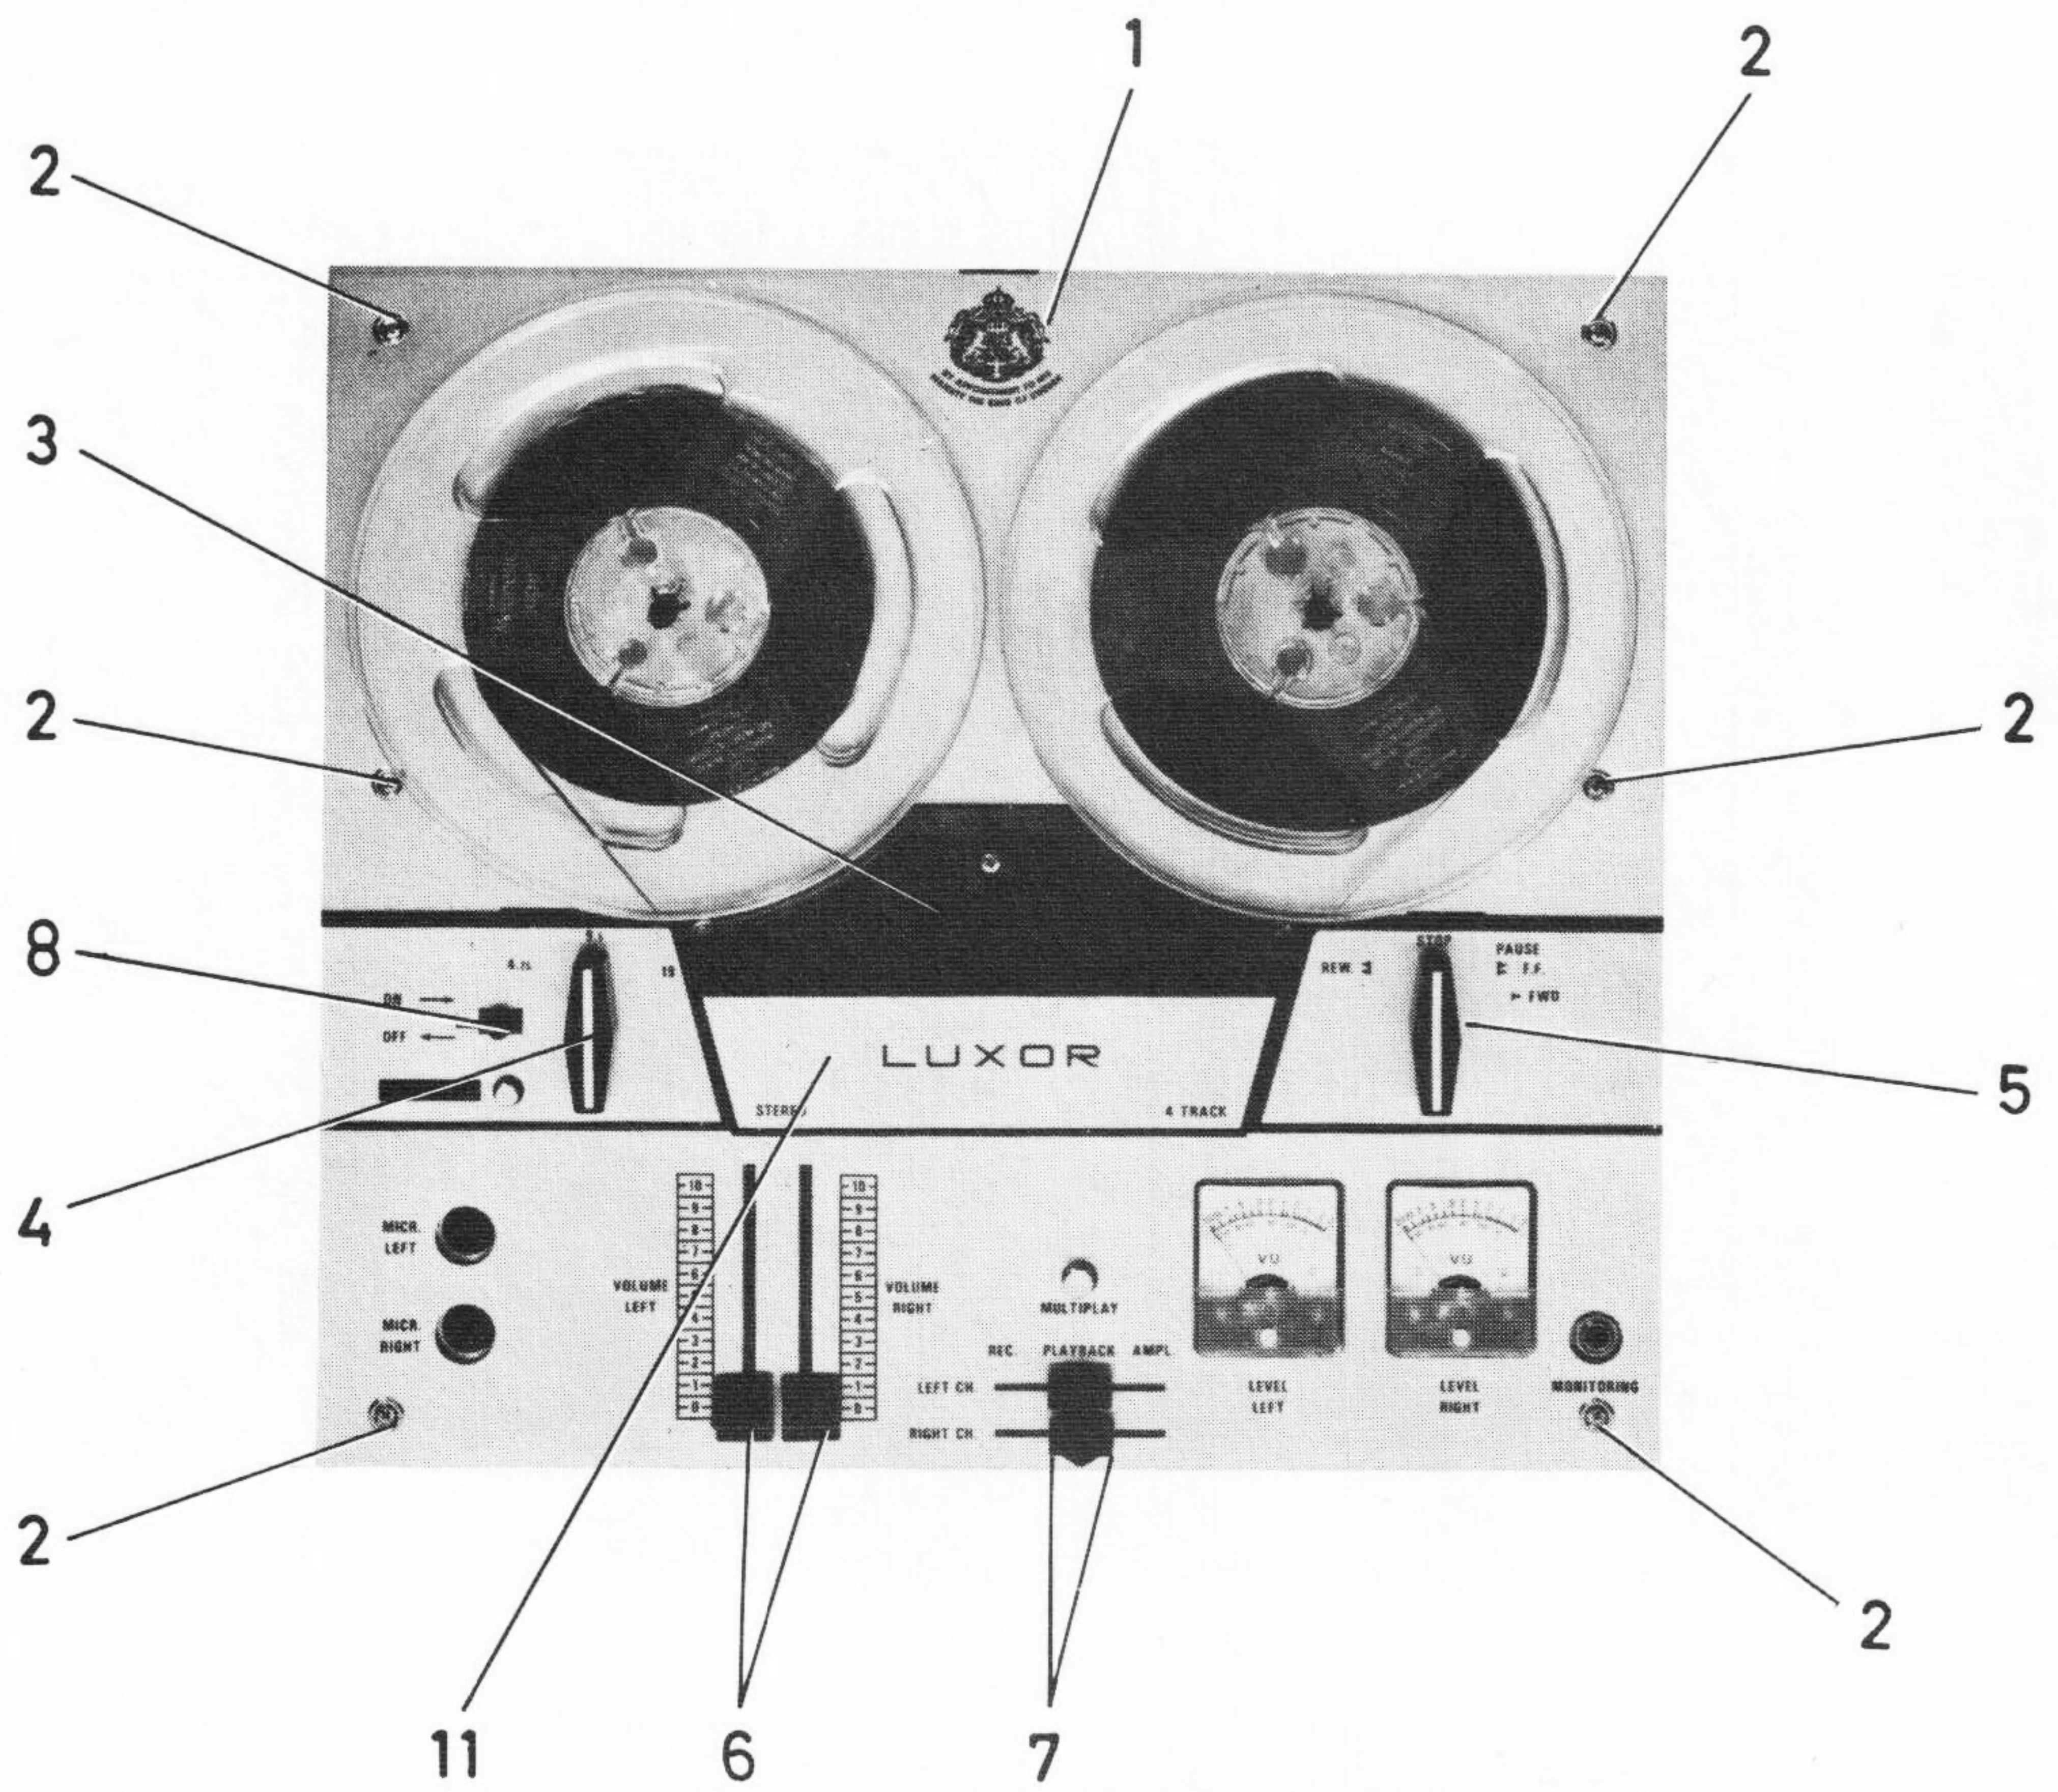
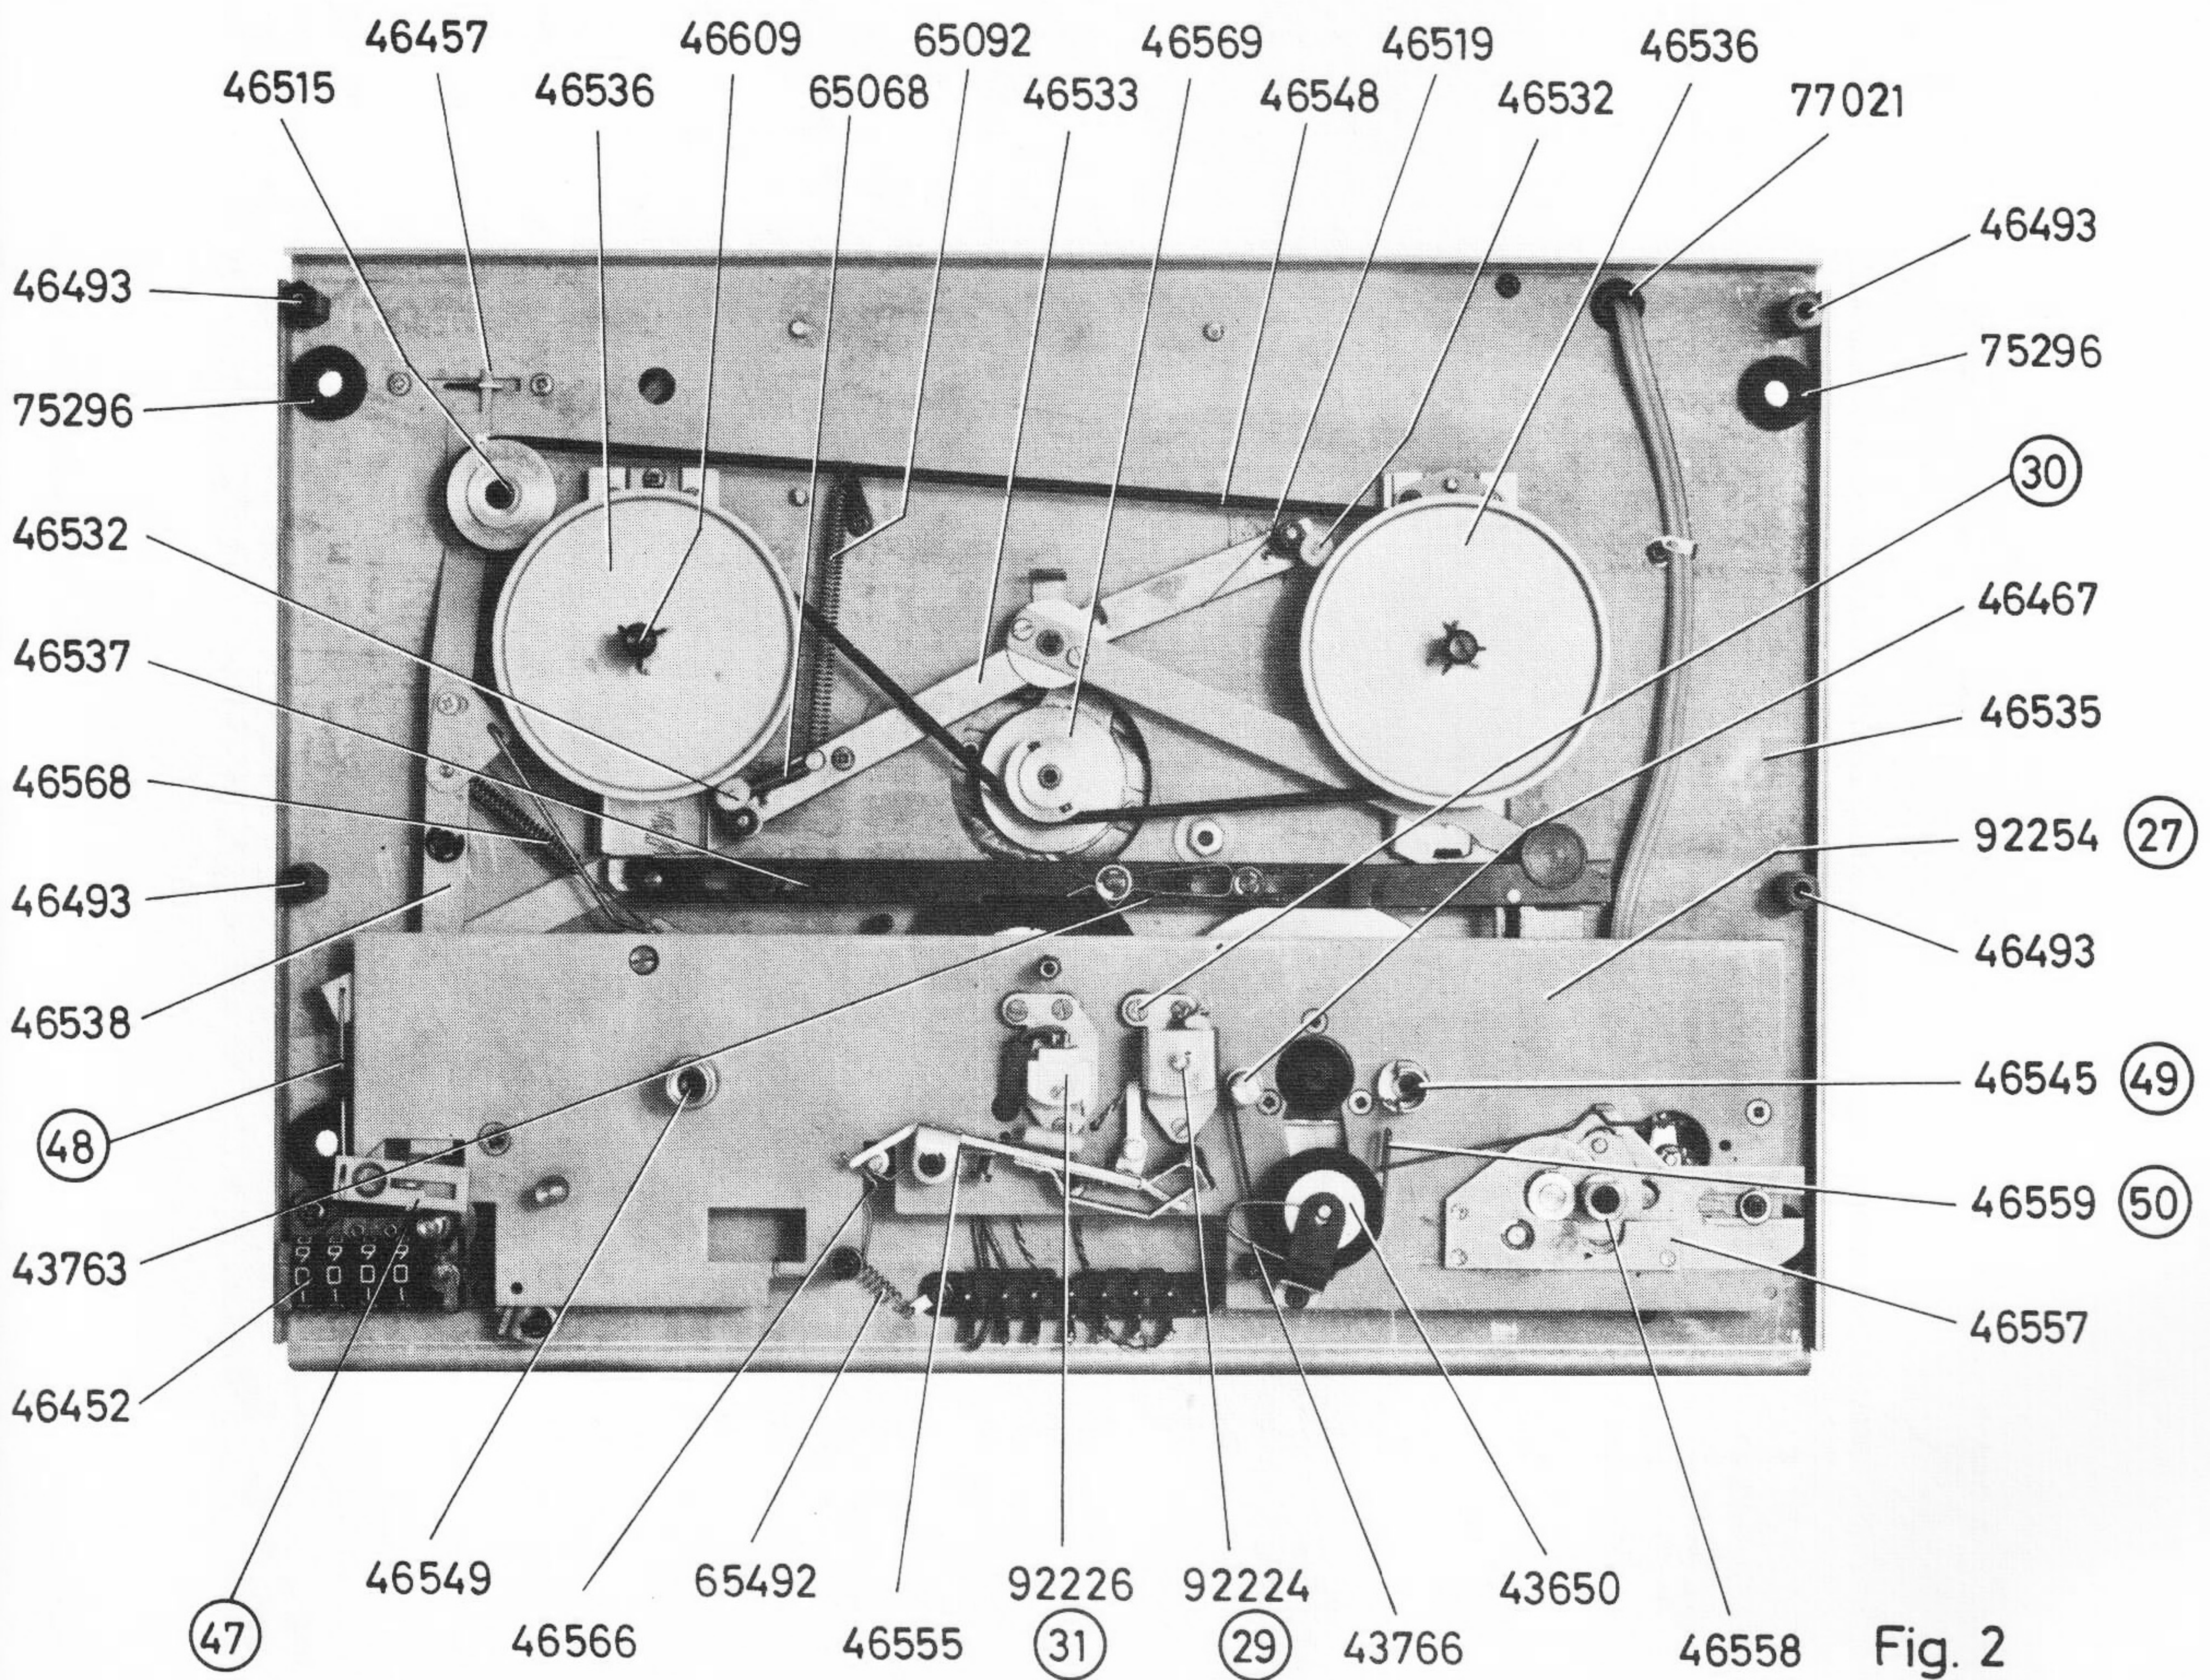
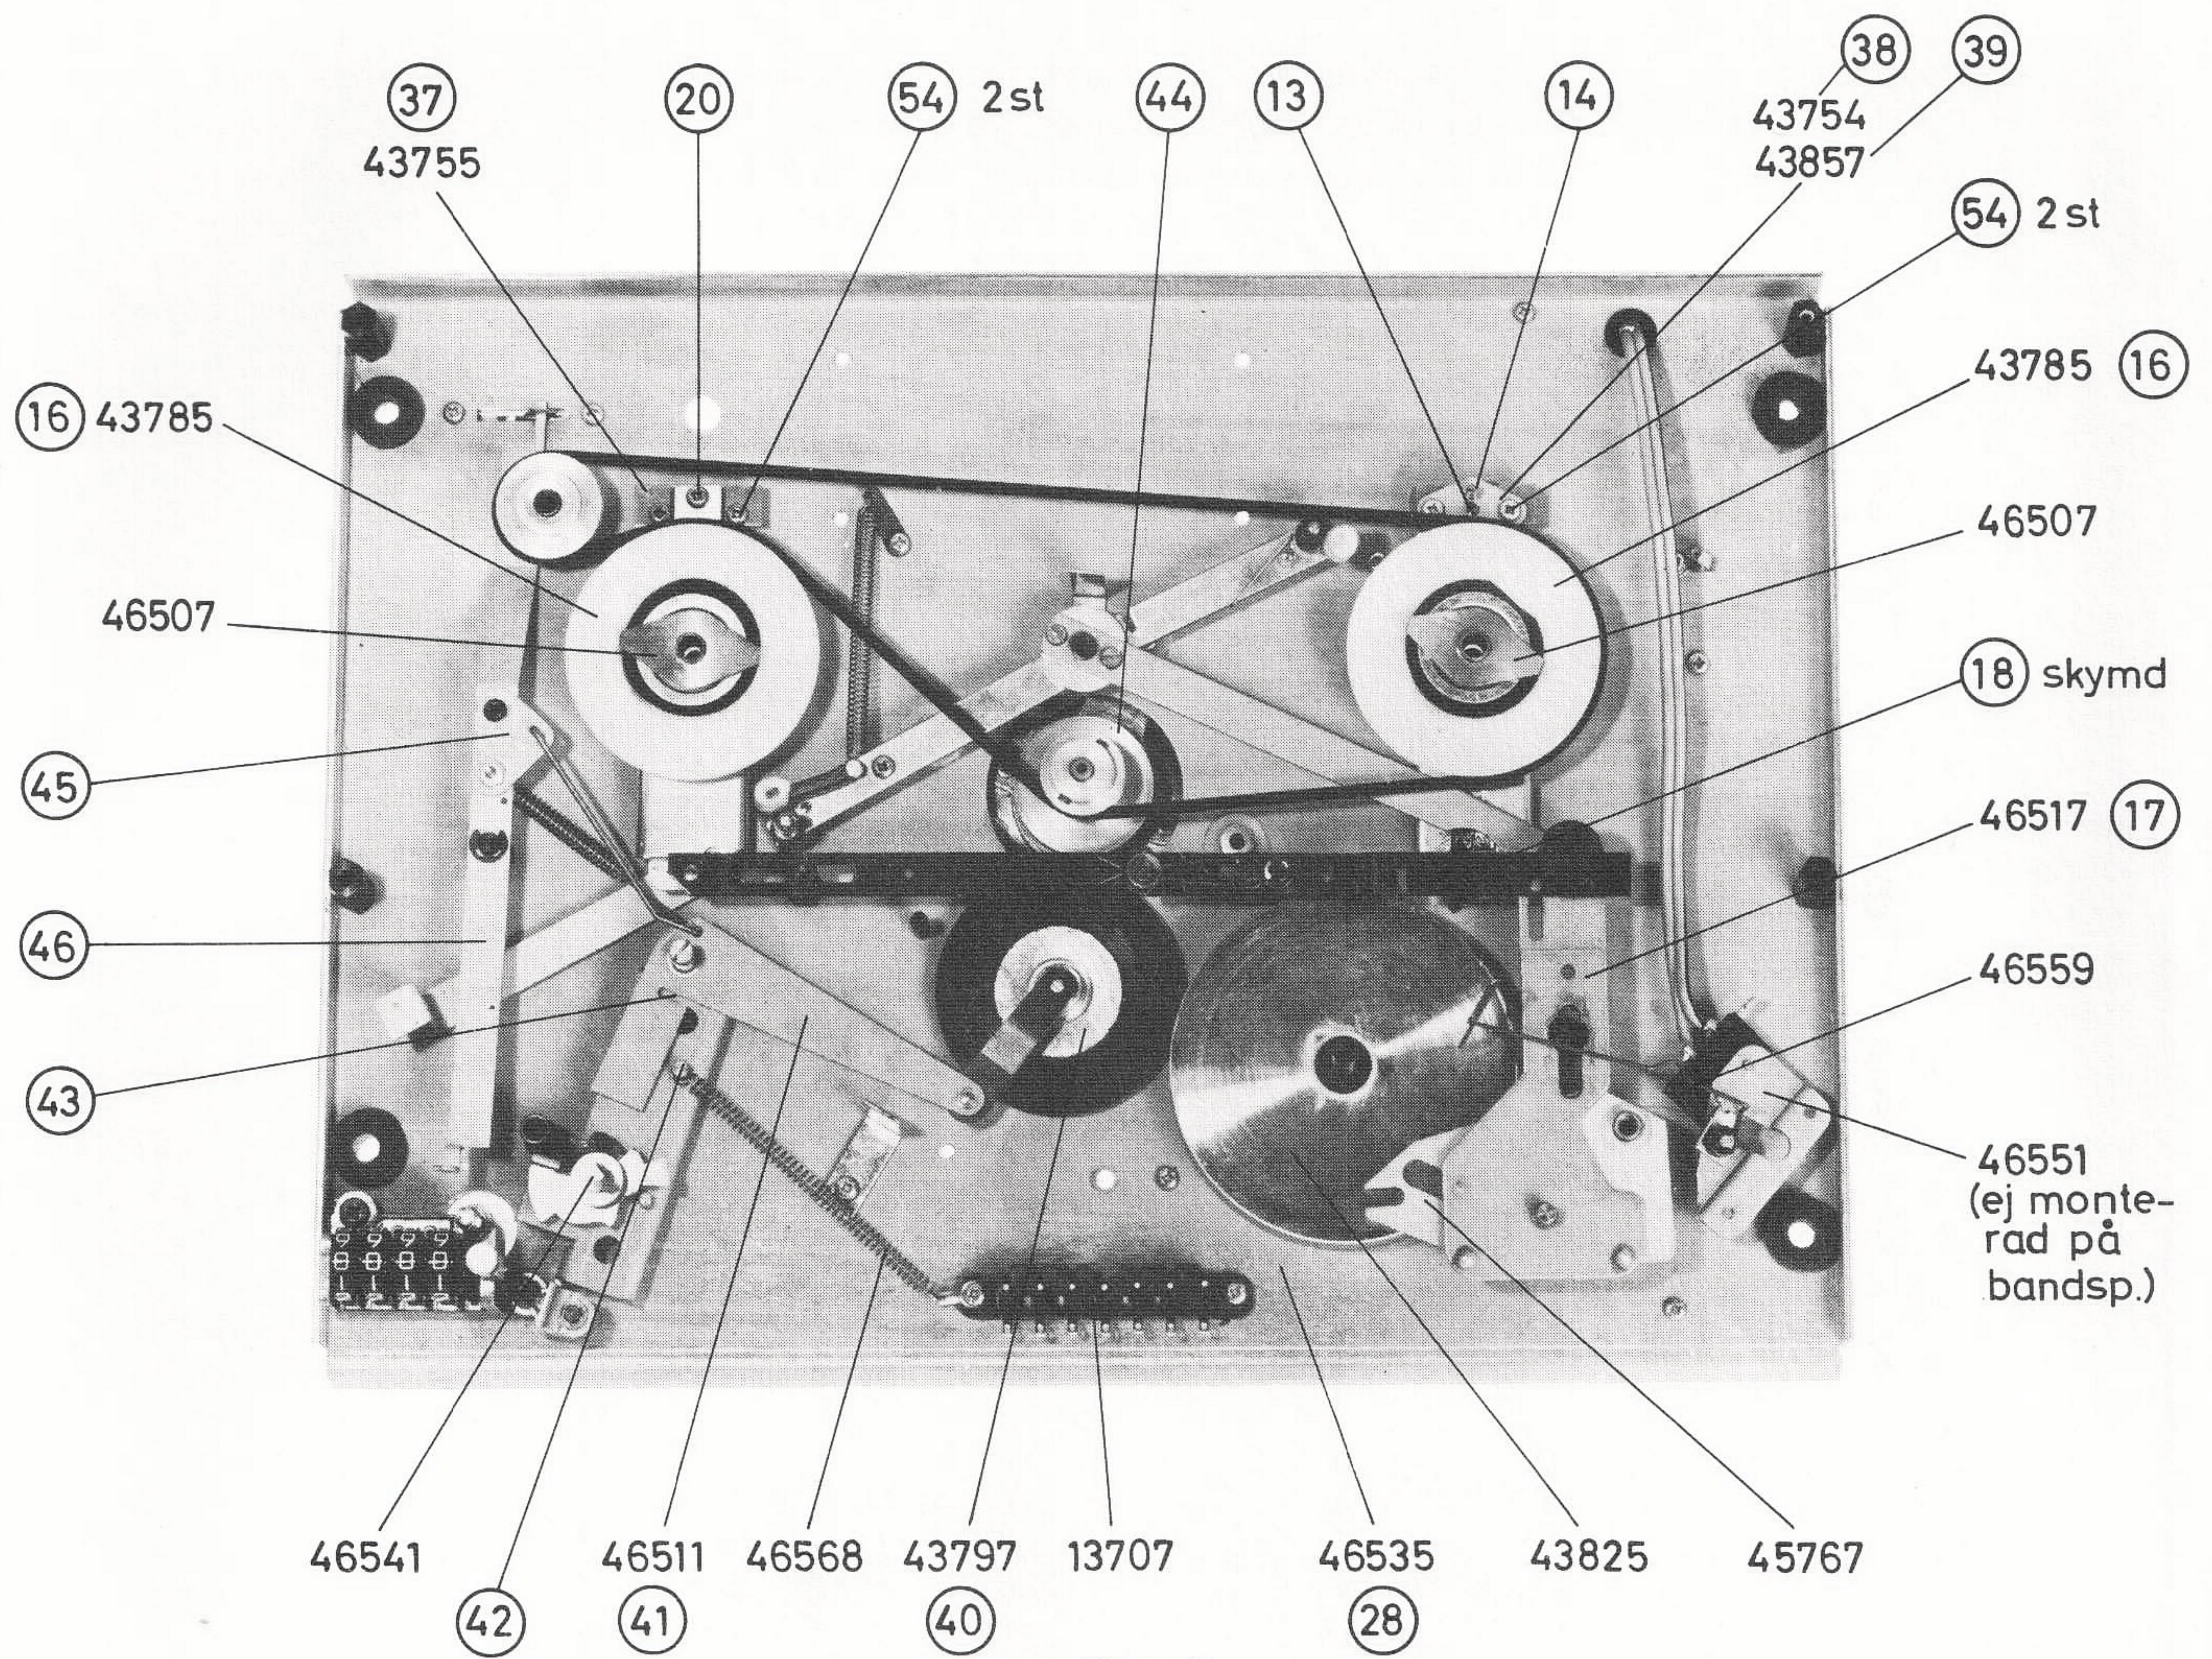
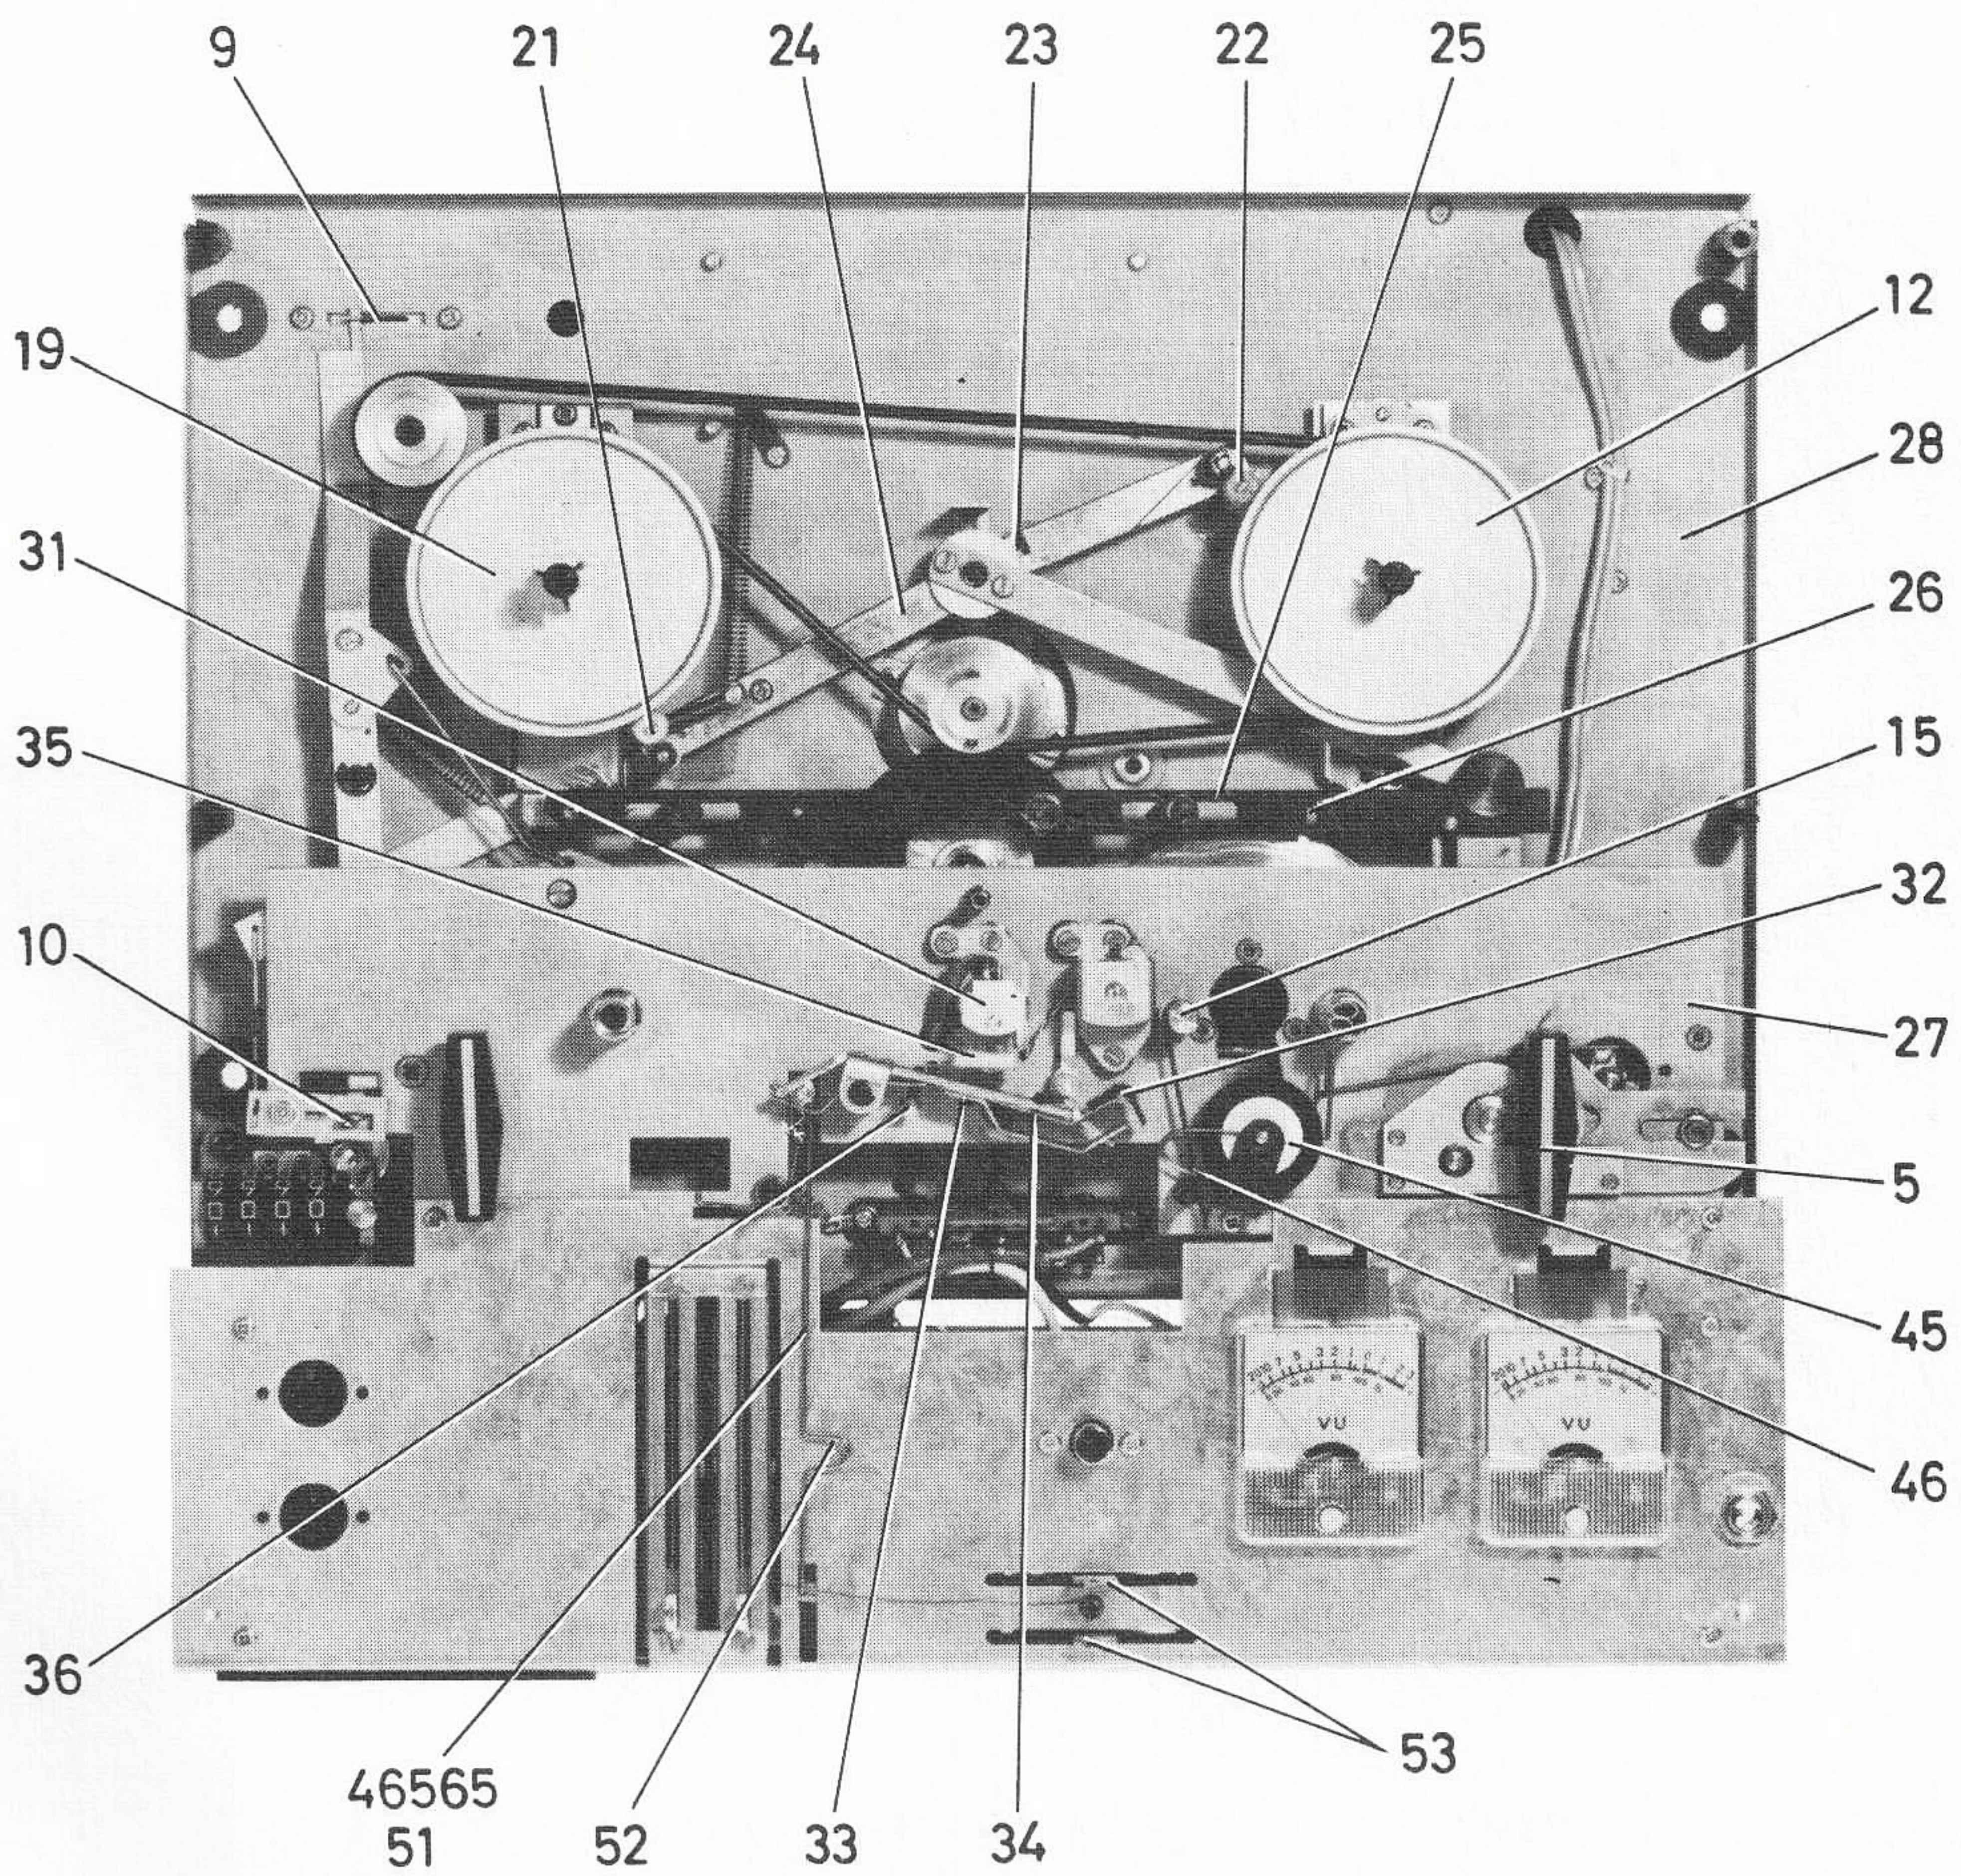

Fig. 1
Fig. 2
Fig. 3
Fig. 4
VILL MAN KOMMA ÅT DELAR UNDER TÄCKPLATTAN (1) FIG 1 MÅSTE DENNA AVTAGAS, VILKET TILLGÅR PÅ FÖLJANDE SÄTT:
DÄREMOT SKALL MANÖVERKNAPPEN (8) FÖR STRÖMSTÄLLAREN (9) FIG 4 EJ TAGAS BORT ENÄR DEN ÄR FÄSTAD I TÄCKPLATTAN. VID ÅTERMONTERING MÅSTE MAN TILLSE ATT DENNA KNAPP FÅR SAMMA LÄGE, SOM STRÖMSTÄLLARENS SPAK (10) FIG 4 SÅ ATT DENNA LÄTT GLIDER IN I MANÖVERKNAPPENS ÖPPNING UNDERTILL.
FRÄMRE MASKEN (11) FIG 1 KAN BORTTAGAS GENOM ATT DEN DRAGES UT.
ANVÄND EN TOMSPOLE MED EN INRE DIAMETER AV 57 MM, PÅ VILKEN ÄR UPP-LINDAD EN BIT SKALLINA. DENNA SPOLE PLACERAS PÅ BANDSPELARENS HÖGRA SPOLHJUL (12) FIG 4, VAREFTER LINANS FRIA ÄNDE FÄSTES I EN FJÄDERVÅG. (SPÄRRA DET AUTOM. STOPPET MED EN BIT PAPPER ELLER DYL.) VRID MANÖVERVREDET (5) (UTAN ATT TRYCKA IN DET) TILL LÄGE NORMALT FRAM ("FORW") OCH JUSTERA MED JUSTERSKRUVEN (13) FIG 3 TILLS FJÄDERVÅGEN VISAR 60 ± 5 GRAM. VRID SEDAN VREDET (5) FIG 4 TILL LÄGE STOPP ("STOP"), TRYCK IN OCH VRID DET TILL LÄGE SNABBT FRAM ("FF"). JUSTERA MED JUSTERSKRUVEN (14) TILLS VÅGEN VISAR $200 + 20$ GRAM. I BÅDA FALLEN SKALL MÄTNINGAR SKE MED APPARATEN STÅENDE OCH LINAN I LODRÄTT LÄGE.
KONTROLLERA ATT ETT AVSTÅND AV 0,5 - 0,7 MM FINNES MELLAN SPOLHJULETS (12) FIG 4 FRIKTIONSFILT OCH REMSKIVANS (16) FIG 3 ÖVRE FRIKTIONSYTA. (GÄLLER ÄVEN VÄNSTER SIDA.) OM SÅ ERFORDRAS GÖRS FÖLJANDE JUSTERINGAR:
PÅ MANÖVERARM (17) FIG 3 FINNS EN JUSTERMUTTER (18). AVSTÅNDET ÖKAS GENOM ATT SKRUVA NED JUSTERMUTTERN. MANÖVERVREDET (5) SKALL STÅ I STOPPLÄGE ("STOP"), DÅ DENNA JUSTERING GÖRES.
FÖR DETTA ANVÄNDES SAMMA MÄTANORDNING, SOM UNDER PKT 1. SPOLEN MED LINAN PLACERAS PÅ APPARATENS VÄNSTRA SPOLHJUL (19) FIG 4, VAREFTER DEN FRIA ÄNDAN FÄSTES I EN FJÄDERVÅG. TRYCK IN VREDET (5) OCH VRID DET TILL LÄGE "REW". JUSTERA MED JUSTERSKRUVARNA (20) FIG 3 TILLS FJÄDERVÅGEN VISAR $200 + 20$ GRAM.
STOPPBROMSARNA JUSTERAS SÅ ATT DÅ MANÖVERVREDET (5) FIG 4 STÄLLES I LÄGE SPELNING ("FORW") SKALL BROMSKLOTSARNA (21) OCH (22) LIGGA 0,3 - 0,5 MM FRÅN YTTERKANTEN PÅ SPOLHJULEN (12) OCH (19). EN AVVIKELSE MELLAN HÖGER OCH VÄNSTER HJUL JUSTERAS MED BOCKNING I SPÅRET (23) PÅ BROMSARMEN (24). STÄLL DÄREFTER MANÖVERVREDET I LÄGE SNABBT FRAM ("FF") OCH JUSTERA MANÖVERARMEN (25) I SPÅRET (26) SÅ ATT OVAN NÄMND AVSTÅND ERHÅLLES ÄVEN I DETTA LÄGE. KONTROLLERA ATT AVSTÅNDEN I LÄGE ÅTERSPOLN. ("REW") EJ ÄR MINDRE ÄN 0,3 MM.
DEN JUSTERBARA BANDSTYRNINGEN (15) FIG 4 INSTÄLLES I HÖJDLED SÅ ATT TONBANDET PASSERAR RAKT GENOM SAMTLIGA BANDSTYRNINGAR OCH FÖRBI RADÉRHUVUDET UTAN ATT PÅ NÅGOT STÄLLE VARE SIG TVINGAS UPP ELLER NED. RADÉRHUVUDETS LÖPYTA SKALL STÅ I RÄT VINKEL MED MANÖVERPLÅTEN (27). SE VIDARE UNDER PKT. 7.
LAGERBUSSNINGARNA FÖR HÖGER OCH VÄNSTER SPOLHJUL (12) OCH (19) KAN VID BEHOV RIKTAS I FÖRHÅLLANDE TILL MONTERINGSPLÅTEN (28) FIG 4 SÅ ATT BANDET SPOLAS I RÄTT HÖJD PÅ BANDSPOLARNA. BUSSNINGARNA RIKTAS MED EN KRAFTIG MEJSEL, SOM SÄTTES IN PÅ LÄMPLIGT STÄLLE I NÅGOT AV DE CIRKULÄRA SPÅREN KRING LAGERBUSSNINGARNA. GENOM EN BRYTNING I SIDLED PÅ SKRUVMEJSELN KAN NU DE FYRA EKRAR, SOM HÅLLER LAGERBUSSNINGEN, DEFORMERAS SÅ ATT EN ÄNDRING AV BANDSPOLNINGEN ERHÅLLES. I VILKET SPÅR MEJSELN SKALL SÄTTAS SAMT ÅT VILKET HÅLL DEN SKALL BRYTAS ÄR BEROENDE AV HUR BANDET LINDAR OCH FÅR BEDÖMAS FRÅN FALL TILL FALL. EFTER DENNA JUSTERING FÅR BANDET EJ SPOLAS NÄRMARE NÅGON AV BANDSPOLENS FLÄNSAR ÄN 0,3 MM.
TONHUVUDET (29) FIG 2 JUSTERAS I HÖJDLED SÅ ATT ÖVRE KANTEN AV DESS ÖVRE KÄRNPLÅT KOMMER 0,1 - 0,2 MM UNDER TONBANDETS ÖVERKANT. TONHUVUDETS FÄSTPLÅT SKALL VARA PARALLELL MED MANÖVERPLÅTEN (27). MAX. AVVIKELSE 0,2 MM MELLAN FÄSTPLÅTENS FRÄMRE OCH BAKRE DEL. SPALTVINKELN INJUSTERAS MED HJÄLP AV TESTBAND. SKRUVEN (30) JUSTERAS SÅ ATT MAX. SIGNAL ERHÅLLES VID AVSPELNING AV ETT SPECIELLT BRUSBAND.
RADÉRHUVUDET (31) FIG 2 JUSTERAS SÅ ATT TONBANDET PASSERAR RAKT FÖRBI HUVUDET UTAN ATT TVINGAS VARE SIG UPP ELLER NED. FÄSTPLATTANS FRÄMRE OCH BAKRE DEL SKALL LIGGA PÅ SAMMA HÖJD FRÅN MANÖVERPLÅTEN MED EN AVVIKELSE AV MAX. 0,2 MM.
TONHUVUDETS TRYCKKUDDE (32) FIG 4 JUSTERAS FÖRST I SIDLED EFTER LOSSNING AV SKRUVARNA (33) OCH (34) SÅ ATT DEN KOMMER MITT FÖR HUVUDETS KÄRNPLÅTAR, VAREFTER SKRUVEN (33) DRAS TILL. SEDAN JUSTERAS KUDDARNAS TRYCK MEDELST SKRUVEN (34) MOT TONHUVUDET SÅ ATT DET FORDRAS EN KRAFT AV 25 POND ATT FÖRA ETT TONBAND FÖRBI HUVUDET. SLUTLIGEN JUSTERAS RADÉRHUVUDETS (31) TRYCKKUDDE (35) MED SKRUVEN (36) SÅ ATT FRIKTIONSKRAFTEN MÄTT PÅ SAMMA SÄTT UPPGÅR TILL 50 + 2 POND DÅ BANDET POSERAR BÅDE RADÉR- OCH TONHUVUD.
MANÖVERFJÄDRARNA (37), (38) OCH (39) FIG 3 MONTERAS SÅ ATT FJÄDRARNAS RÖRELSER I HÖJDLED EJ HINDRAS. SE DÄREFTER TILL ATT FJÄDRARNA HÅLLES I NEUTRALT LÄGE DÅ DERAS FÄSTSKRUVAR (54) ÅTDRAGES.
MED VREDET (4) FIG 1 FÖR HASTIGHETSINSTÄLLNING I LÄGE 19 CM/SEK KONTROLLERAS ATT MELLANHJULET (40) FIG 3 LIGGER PARALLELLT MED MONTERINGSPLÅTEN (28) OCH ATT MELLANHJULETS LAGERTAPP LIGGER PÅ ETT AVSTÅND AV 0,5 - 1,0 MM FRÅN DENNA PLÅT. VID BEHOV BOCKAS MELLANHJULETS MANÖVERARM (41) UPP ELLER NED. KONTROLLERA ÄVEN MED VREDET (4) FIG 1 I SAMTLIGA TRE LÄGEN ATT SPEL FINNS MELLAN TAPPEN (42) FIG 3 OCH MELLANHJULETS MANÖVERARM (41). DETTA SPEL KAN JUSTERAS IN GENOM BOCKNING AV MANÖVERARMEN (41) I SPÅRET (43). SPELET SKALL HÅLLAS MELLAN 1 OCH 2 MM. DÅ STRÖMSTÄLLAREN SLÅS IFRÅN MED SPAKEN (8) FIG 1 SKALL MELLANHJULET LYFTAS UT 1-3 MM FRÅN DRIVRULLENS (44) FIG 3 DRIVBANA FÖR 19 CM/SEK. JUSTERAS GENOM VRIDNING AV JUSTERPLÅTEN (45) PÅ MANÖVERARM (46).
MOTORNS DRIVRULLE (44) FIG 3 JUSTERAS I HÖJDLED SÅ ATT DÅ VREDET (4) FIG 1 STÅR I LÄGE 4,75 CM/SEK SKALL ETT SPEL AV 1,5 MM FINNAS MELLAN UNDER KANTEN AV MELLANHJULETS GUMMIBANA OCH ÖVRE KANTEN AV DRIVRULLENS DRIVBANA FÖR 9,5 CM/SEK. MEDAN RULLEN HÅLLES I RÄTT LÄGE ÅTDRAGES EN AV DESS SKRUVAR LÖST, VAREFTER DEN ANDRA SKRUVEN ÅTDRAGES HÅRT.
12) MONTERING AV TRYCKRULLEN (45) FIG 4.
VID MONTERING OCH DEMONTERING AV DE TVÅ FJÄDRARNA (46) FIG 4 SKALL STOR FÖRSIKTIGHET IAKTTAGAS SÅ ATT DE EJ DEFORMERAS, VILKET KAN MEDFÖRA ATT DET BLIR FÖR LÅG FJÄDERKRAFT ELLER ATT KRAFTERNA BLIR OLIKA STORA UPPE OCH NERE, VARVID BANDFÖRINGEN FÖRSÄMRAS MED HÖGRE SVAJVÄRDEN SOM FÖLJD.
13) JUSTERING AV SPÄRREN FÖR STRÖMSTÄLLAREN (9)
SPÄRREN (47) FIG 2 JUSTERAS GENOM BOCKNING AV DESS MANÖVERTRÅD (48) SÅ SÄKER SPÄRRNING ERHÅLLES I ALLA KÖRLÄGEN OCH ATT SPÄRRNINGEN UPPHÖR I STOPPLÄGET ("STOP").
HÖGRA BANDSTYRNINGEN (49) FIG 2 VRIDES I SÅDANT LÄGE ATT MIKROBRYTARENS MANÖVERTRÅD (50) KAN PASSERA FRITT MELLAN BANDSTYRNINGENS "PLANNA" DEL OCH PINNEN. BRYTLÄGET JUSTERAS GENOM BOCKNING AV DEN NEDBÖJDA FLIK, SOM TRYCKER MOT MIKROBRYTARENS EGEN BRYTARPINNE.
UTLÖSNINGSTRÅDEN (51) FIG 4 TILLÅTER FUNKTIONSKOPPLAREN (53) ATT ÅTERGÅ TILL UTGÅNGSLÄGE EFTER EN INSPELNING DÅ VREDET (5) FÖRES TILL STOPPLÄGE ("STOP"). JUSTERA SÅ ATT FUNKTIONSKOPPLARSPAKARNA SÄKERT SPÄRRAS I LÄGE "REC" GENOM BOCKNING AV UTLÖSNINGSTRÅDENS JUSTERSLINGA (52).